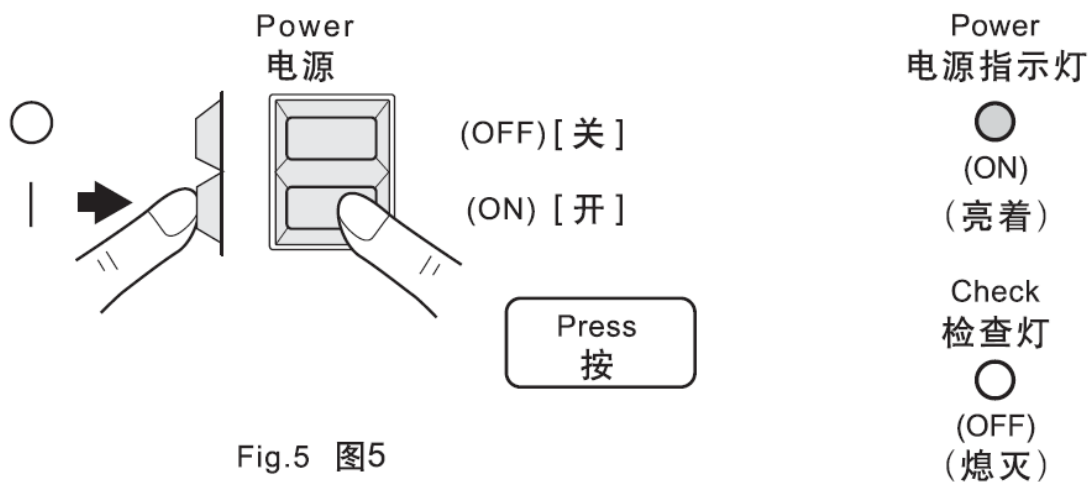

Fig.5 图5
- ① Press the power switch "ON", make sure the "Power" light is on and "Check" light is off. (Fig.5)
- ② Make sure the unit goes into operation when hand is inserted under the blowing nozzle and stops when hand is withdrawn.
- ① 请将电源开关按[开](ON)及确保电源指示灯亮起。(图5)
- ② 将手放在吹风管口下即有风吹出，将手移开吹风便停止，即可确认这干手机运转正常。